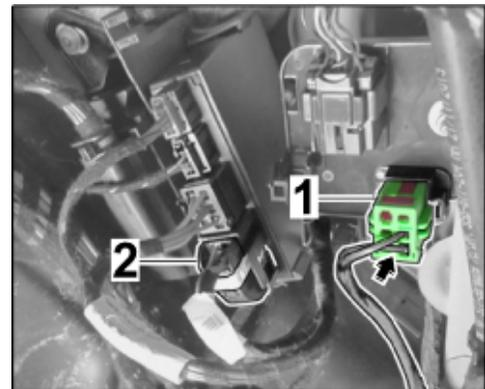

Figure 21
3.4.4 Connect plug connection for trailer hitch preparation (⇒ *Figure 21 -1-*).
Connect plug connection to the trailer hitch control unit (⇒ *Figure 21 -2-*)